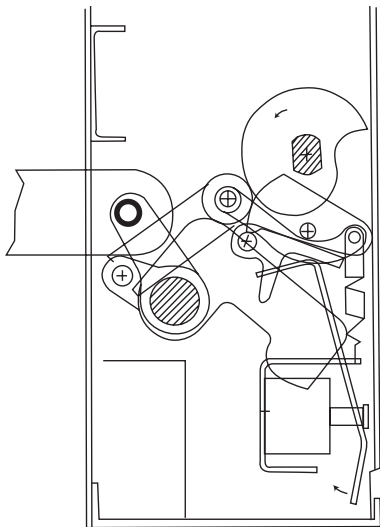

Figure 5-5c Breaker Closed and Closing Spring Not Charged
the three operating rods (9), closes the main contacts and charges the contact loading springs (not shown). The operational state immediately after the main contacts close but before the spring charging motor recharges the closing springs is illustrated in Figure 5-5c. Interference of the trip "D" shaft with the trip latch prevents the linkage from collapsing, and holds the breaker closed.